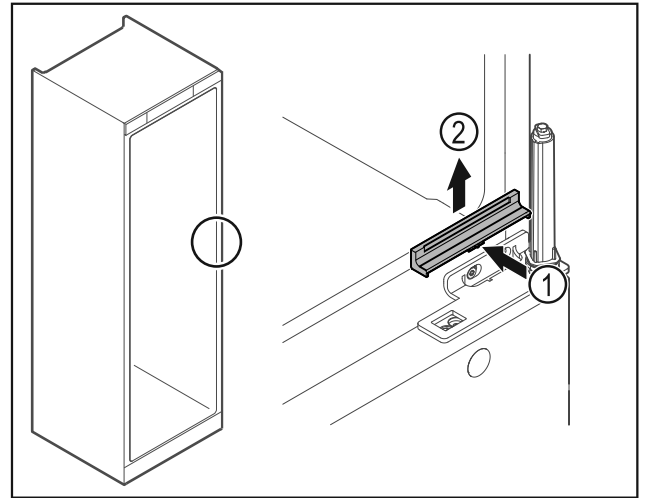

Fig. 22
- ▶ Gently press the middle of the cover Fig. 22 (1) and lift it off Fig. 22 (2).